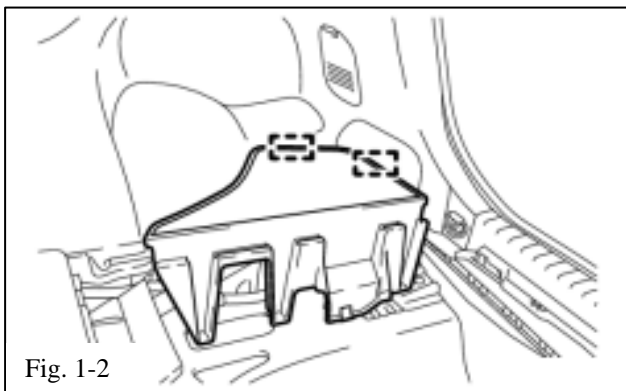

Fig. 1-2
- (e) Disengage the two (2) guides and remove the right rear floor board. (Fig. 1-2)